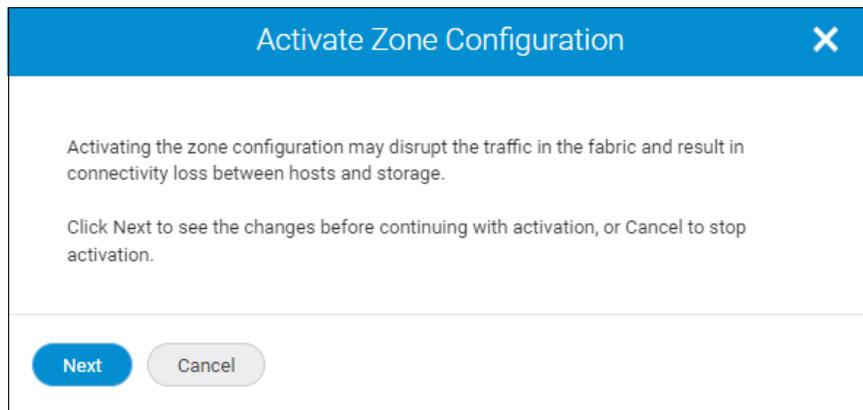

Figure 5-39 Activating the configuration confirmation message
5. Read the confirmation message, and then click **Next** to compare the defined zone configuration with the effective zone configuration, as shown in Figure 5-39. For more information, see “Comparing defined with the effective zone configurations” on page 147.